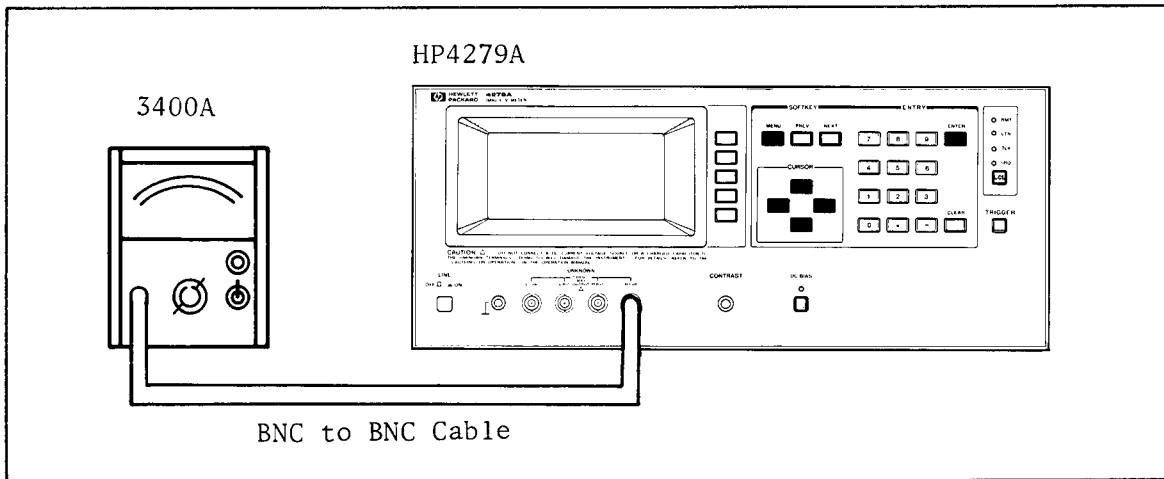

Figure 9-2. Test Signal Level Accuracy Test Setup
1. Connect the 3400A to the 4279A as shown in Figure 9-2.